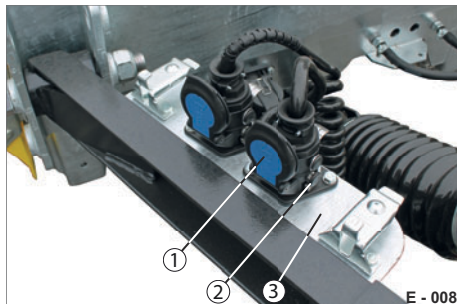

Fig. 10 Plug, parked
- ▶ With uncoupled trailer, connect the sockets into the respective parking sockets (Fig. 10/1).
- ▶ Rotate the bracket (Fig. 10/2) onto the Nippons in the parking socket.